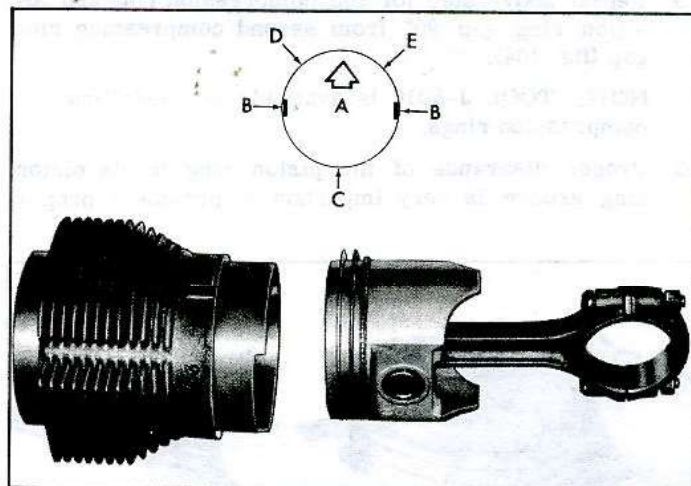
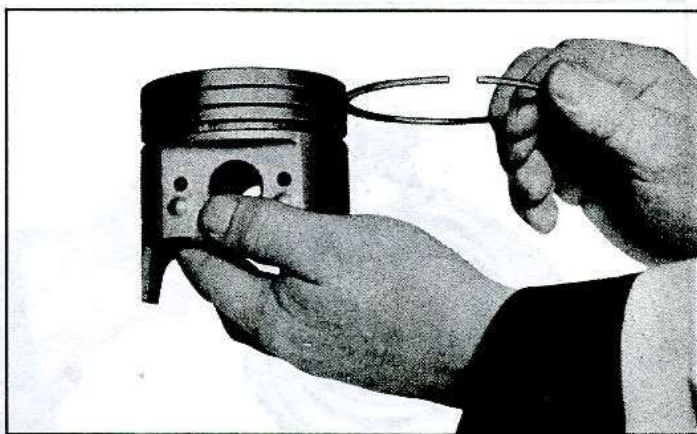

Fig. 104—Piston Rings Installed
Fig. 105—Rolling Ring in Groove
6. Install the oil ring spacer in the oil ring groove and position gap so when piston is installed gap will be in line with engine bottom. (Anti-rotation tang will lock in oil slot.) Hold spacer ends butted and install steel rail on lower side of spacer. Position gap so when piston is installed gap will be in line with top of engine 45° from piston pin (fig. 104), then install
second rail on upper side of spacer. Position gap so when piston is installed gap will be in line with top of engine 90° from lower rail (fig. 104).
8. Slip the outer surface of the second compression ring into the piston ring groove and roll the ring entirely around the groove to make sure that the ring is free and does not bind in the groove at any point (fig. 105). If binding occurs, the cause should be determined and removed by carefully dressing with a fine cut file. However, if the binding is caused by a distorted ring, check a new ring. Install ring and position gap so when piston is installed gap will be in line with top of engine 45° from piston pin (fig. 104).
9. Repeat above step for top compression ring and position ring gap 90° from second compression ring gap (fig. 104).